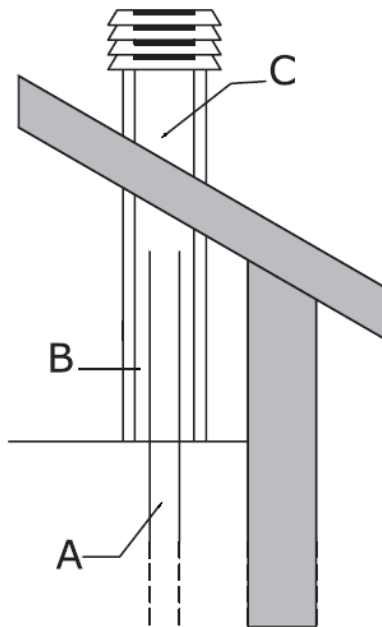

Figure 2.6: Example of extraction flue connection.
We recommend to follow indications reported under regulations UNI 9615 and 9731 referred to dimensions of the chimney (C) and however to avoid using sections smaller than 100 mm . In the case where there are larger sections, it is necessary to insert a steel pipe (A) inside the masonry one (C), as shown in figure 2.6.